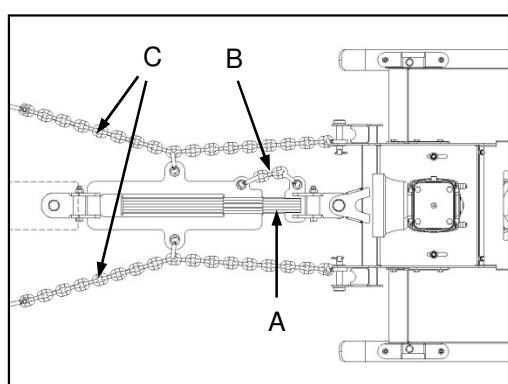

Fig. 4
The implement is equipped with a telescopic drawbar (Fig. 4-A) which extends while towing the implement. It also has the capability to retract when positioning the tractor in relation to the implement (e.g. when attaching / detaching the carrier frame).
Die implement beskik oor 'n teleskopiese trekstang (Fig. 4-A) wat langer word terwyl die implement gesleep word en korter wanneer die trekker in verskillende verhoudings tot die implement geposisioneer word (bv. wanneer die draraam aangeheg of losgemaak word).
- ✓ Set the length of the drawbar extension check-chain (Fig. 4-B) to control the maximum extension of the drawbar when towing.
- ✓ Set the lengths of the drawbar lateral check-chains (Fig. 4-C) to prevent excessive articulation of the drawbar, and to prevent the likelihood of contact between the drawbar and tractor tyres while cornering.
- ✓ Stel die lengte van die trekstangverlengingkeerketting (Fig. 4-B) om die maksimum verlenging van die trekstang tydens gebruik te beheer.
- ✓ Stel die lengtes van die trekstang se laterale keerkettings (Fig. 4-C) om uitermate artikulasie van die trekstang te verhoed asook moontlike kontak tussen die trekstang en die trekkerbande wanneer gedraai word.